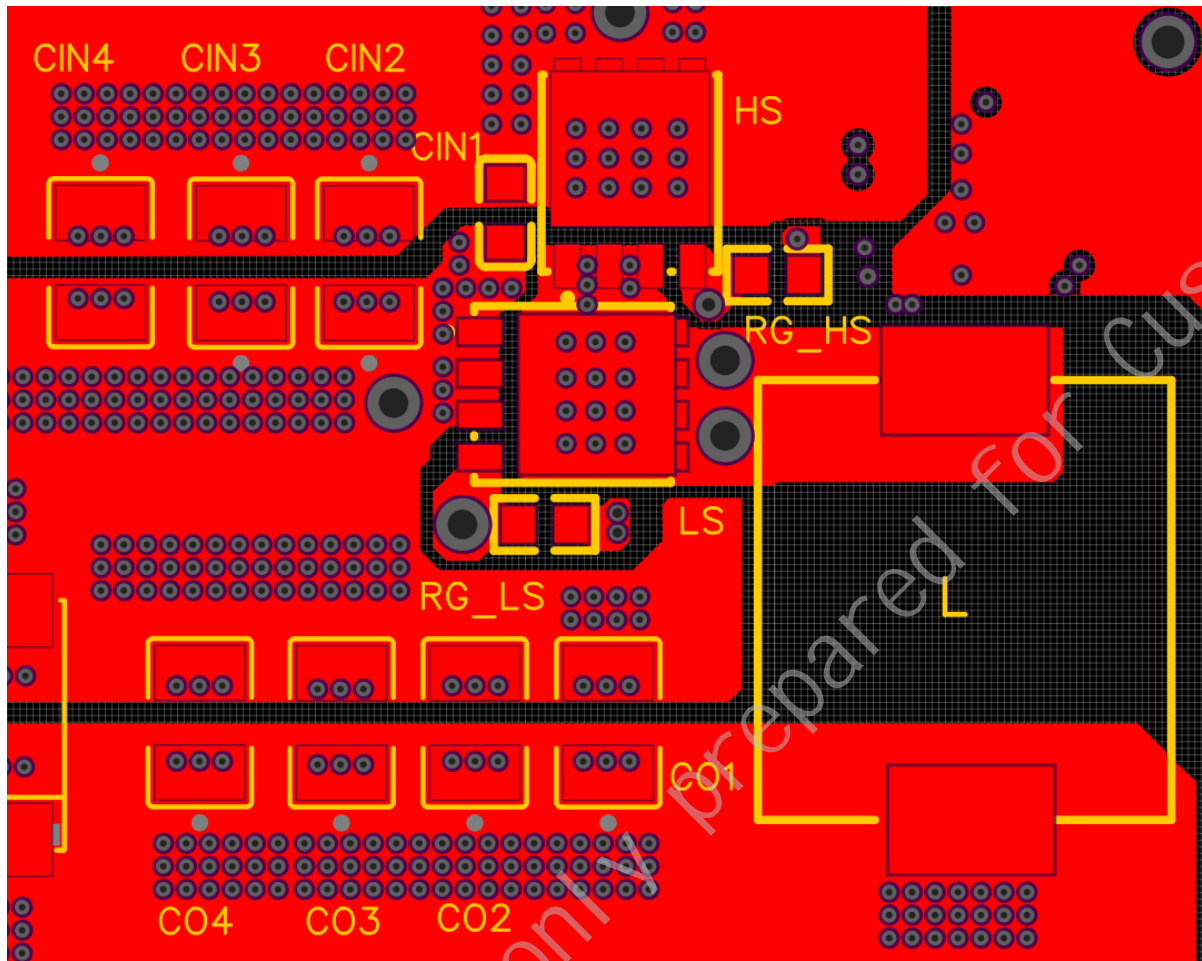

Figure 59 MK9218 Power Loop Layout Example
- Minimize the loop area formed by C_{IN} connections to VIN and GND pins, refer to Figure 59.